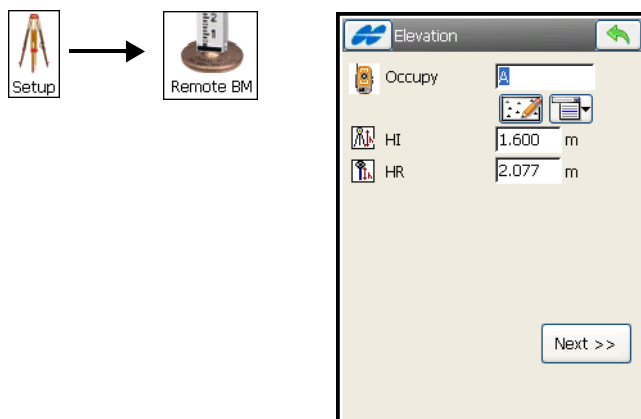

Figure 8-47. Unknown Elevation
3. On the *Elevation* screen set the occupation point for which the elevation will be calculated (Figure 8-47), tap **Next**.
4. On the **Known Elev** screen (Figure 8-47), select the point of known coordinates from the map or from the list.